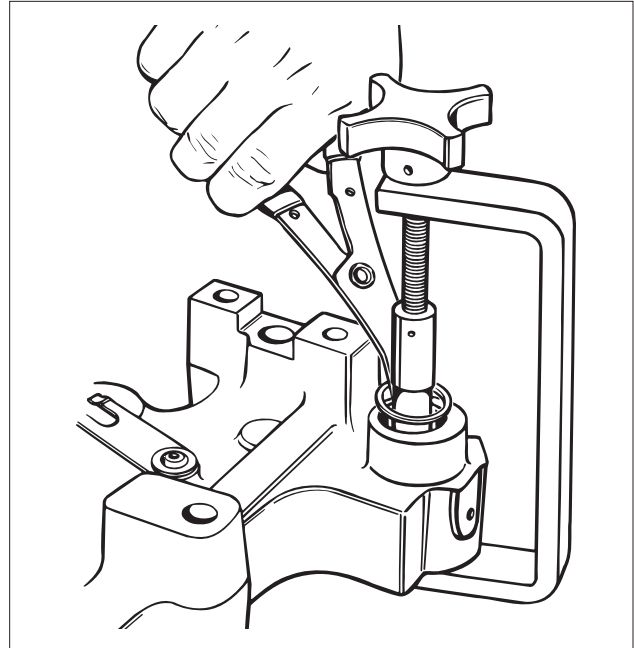

FIG. 29
4. Remove the retaining ring using retaining ring pliers. Back out the holder until the springs are loose. Remove the tool. (see Fig. 29)
8. Use the removal tool to compress the slave piston and springs down until the retainer is about 1/32" (1 mm) below the retaining ring groove (see Fig. 29).